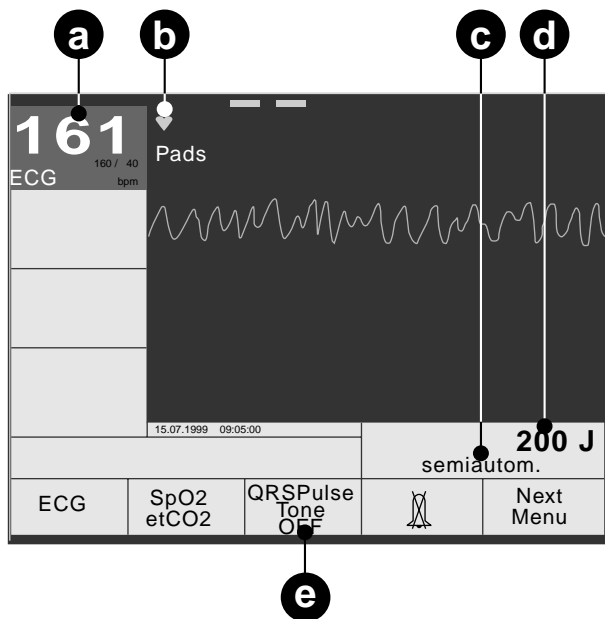

Figure 5-1. Standard display
- Check that the semiautomatic mode is enabled (**c**, Figure 5-1) and that the selected energy is displayed (**d**, Figure 5-1).